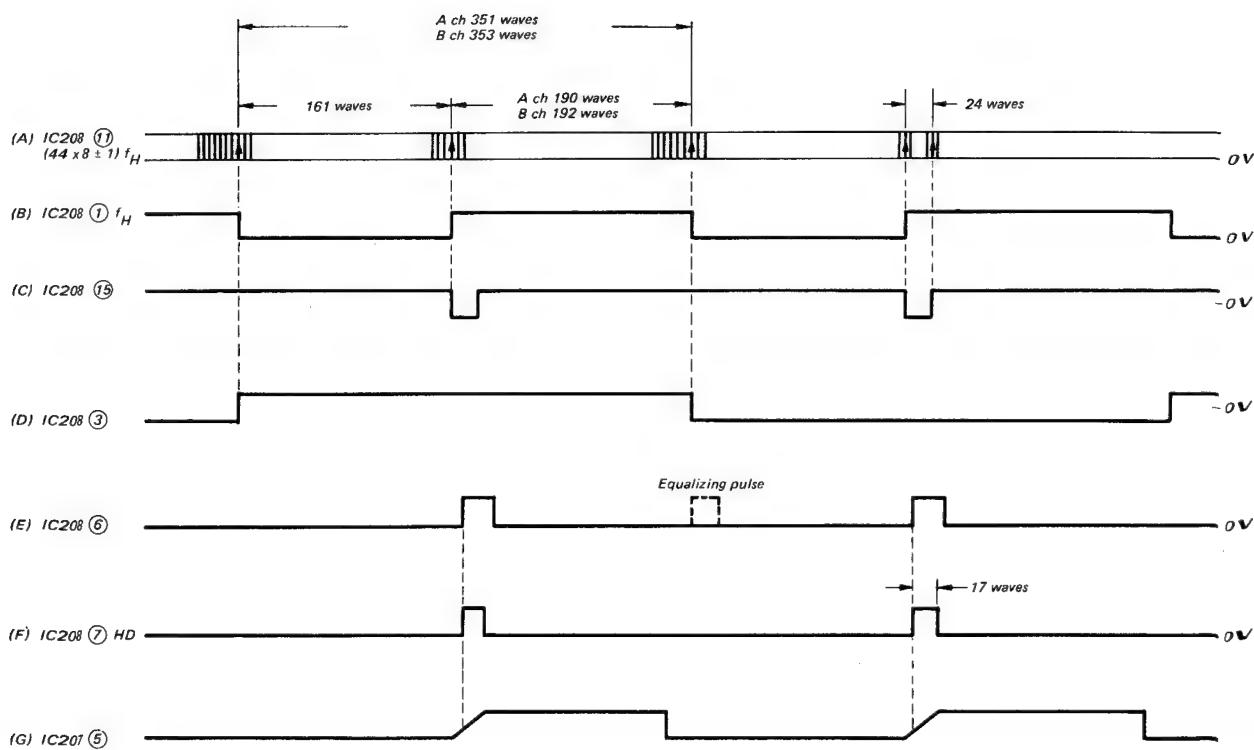
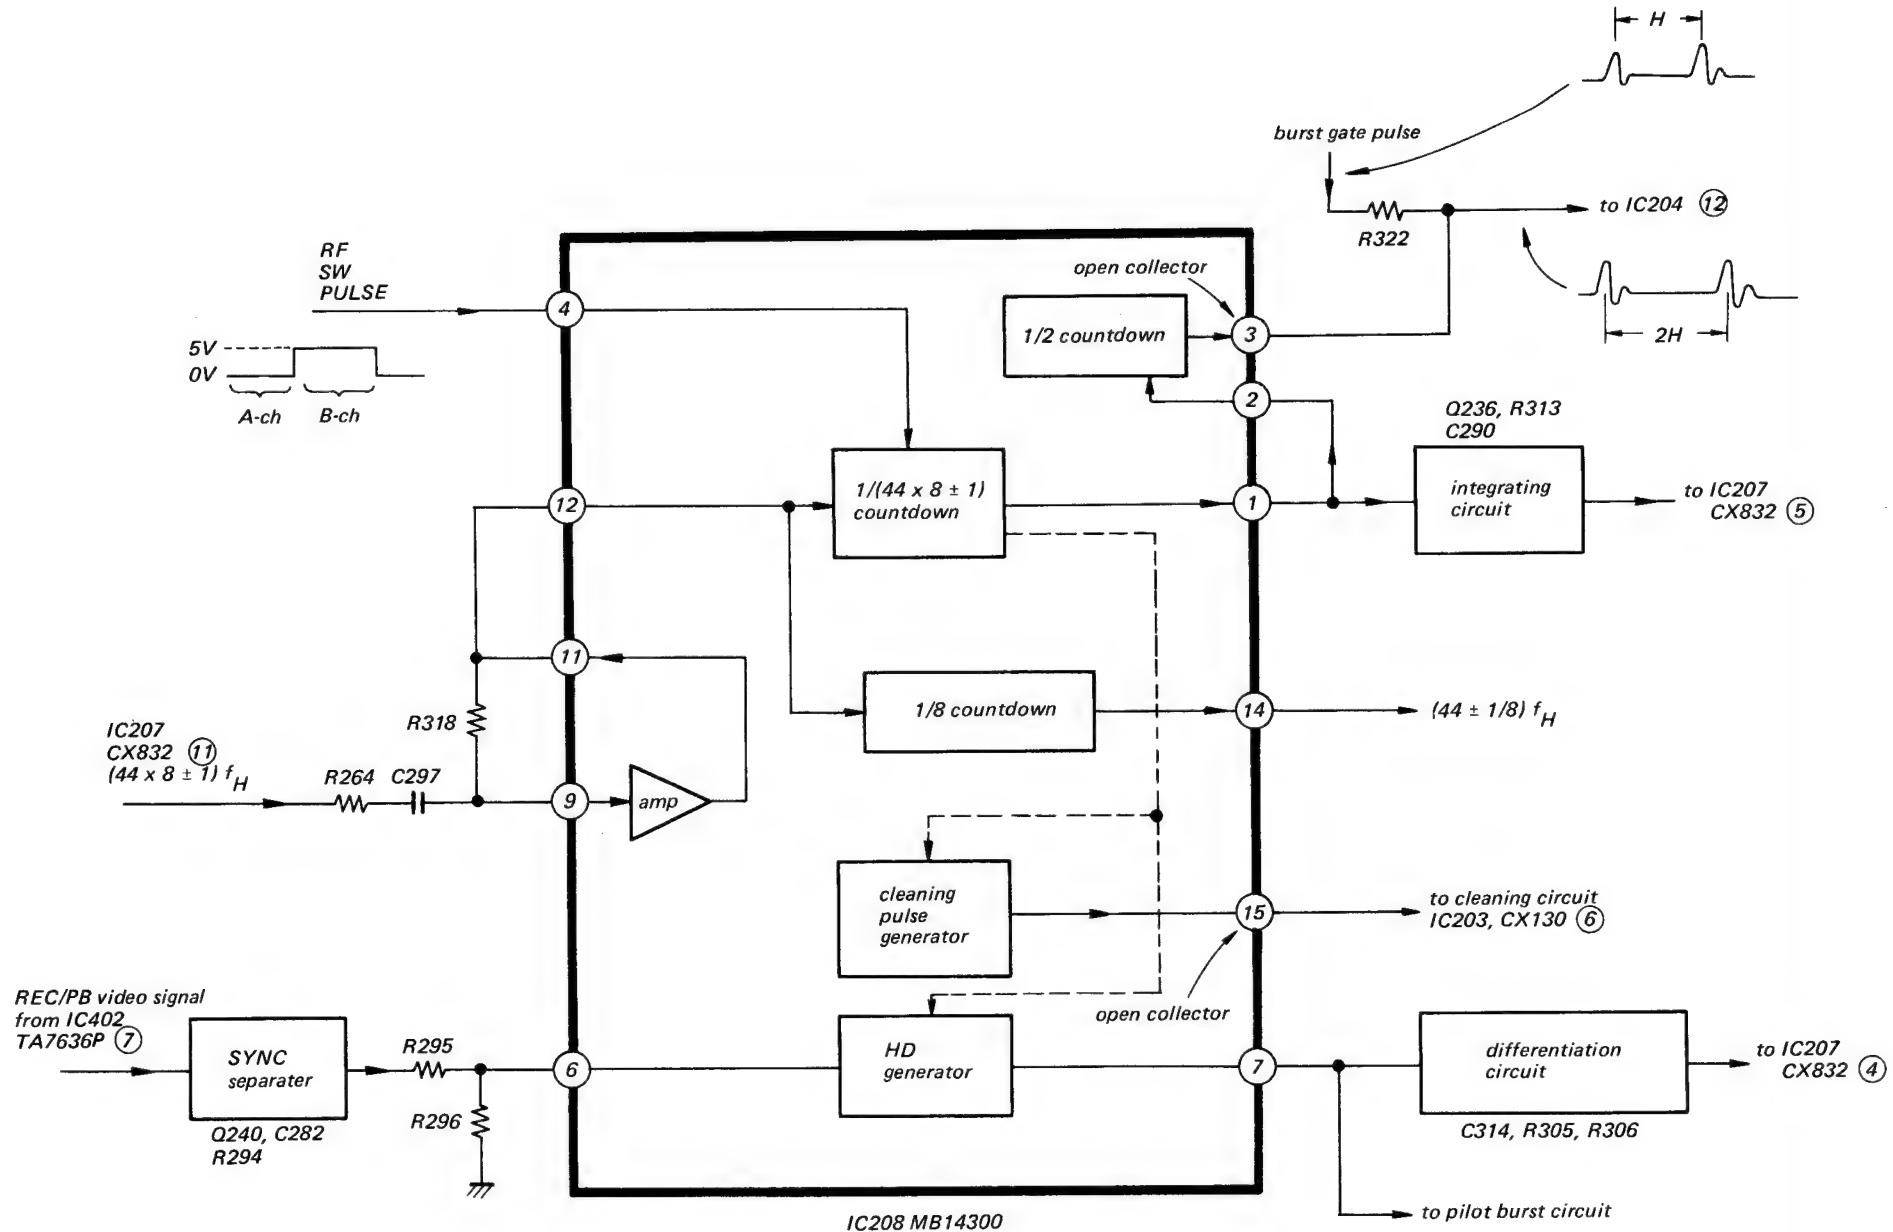

Fig. 3-30
Fig. 3-31
Block diagram is shown in Fig. 3-31 and Timing chart is shown in Fig. 3-30.
The output signal from pin 11 of IC208 (waveform is shown in Fig. 3-30(A)) is fed to the 1/(44 x 8 ± 1) countdown stage through pin 12.
The output of the countdown circuit which waveform is shown in Fig. 3-30(B) is fed to AFC detector through the integrator (waveform is shown in Fig. 3-30(E)).
The output of sync separator of which waveform is shown in Fig. 3-30(E) is fed to pin 6 of IC208, HD pulse generator where the equalizing pulses are removed and HD pulse (3μs) is output from pin 7 of IC208. (waveform is shown in Fig. 3-30(F))
The pilot burst cleaning pulse is output from pin 15 of IC208. (waveform is shown in Fig. 3-30(C)).